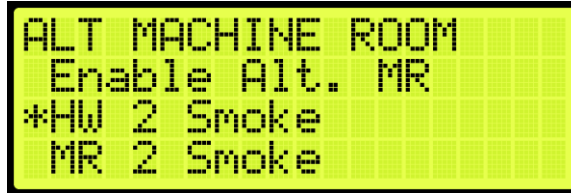

Figure 565: ALT MACHINE ROOM Menu – HW 2 Smoke
3. From the ALT MACHINE ROOM menu, scroll and select HW 2 Smoke (See Figure 565).